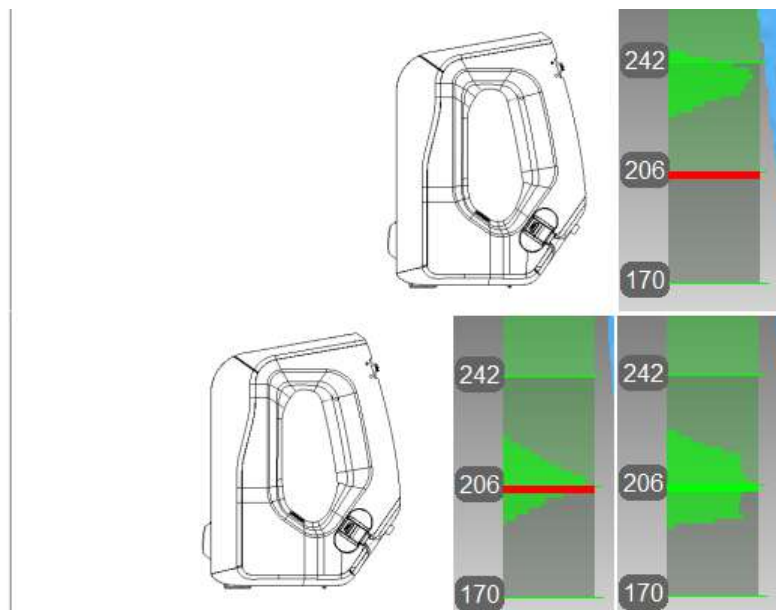

Figure 159: Artec Spider scanner's position and corresponding distance on the range meter.
7. Move the scanner smoothly toward the flat surface such that the histogram peak coincides with the red mark on the range meter (see Figure 159).